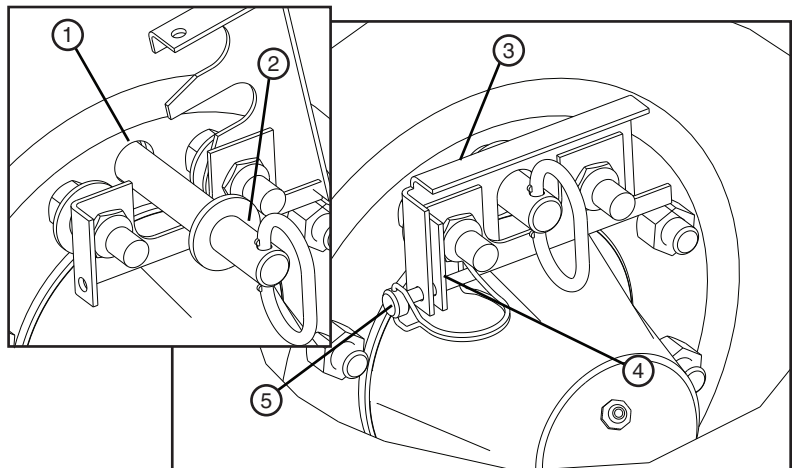

Figure 87-2 1. Hub Torque Pin Receiver 4. Retainer Clip
- Rotate the tire until the hole in the hub torque pin receiver is aligned with the hole in the axle torque arm. Install the torque pin and close the retainer plate. Secure the retainer plate to the retainer clip with the lynch pin. See figure 87-2.